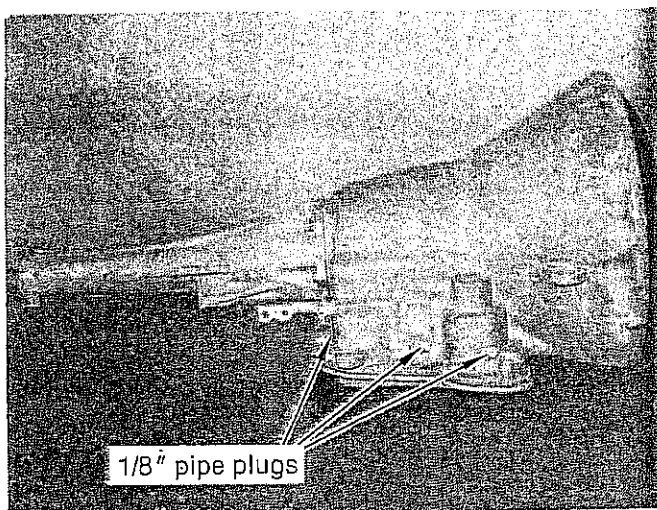

FIGURE 2
**STEP 17.** Remove the three  $\frac{1}{8}$ " pipe plugs on the right side of the case at the pressure check points. (See Fig. 2) Set them in the oil pan. Remove the neutral safety switch. Set it in the oil pan.